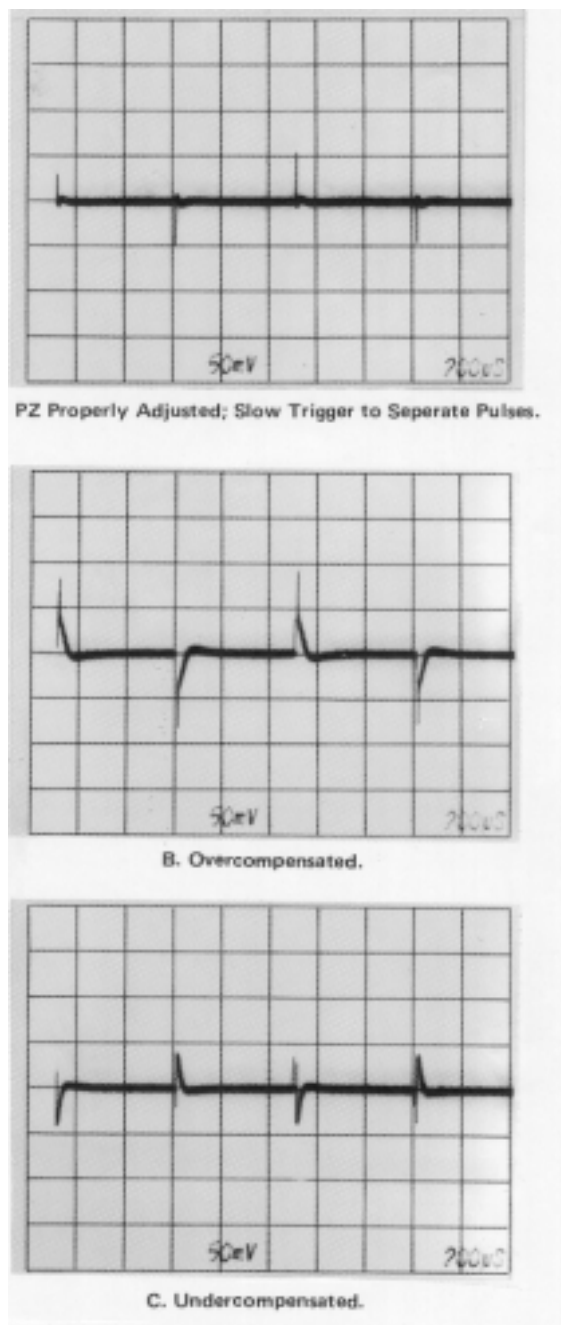

Fig. 4.3. Pole-Zero Adjustment Using a Square Wave Input to the Pre-amplifier.
- d. Observe the Unipolar output with an oscilloscope. Adjust the PZ Adj control for proper response as shown in Fig. 4.3. Use the clamp circuit (Fig. 4.2) to prevent overloading the oscilloscope input.